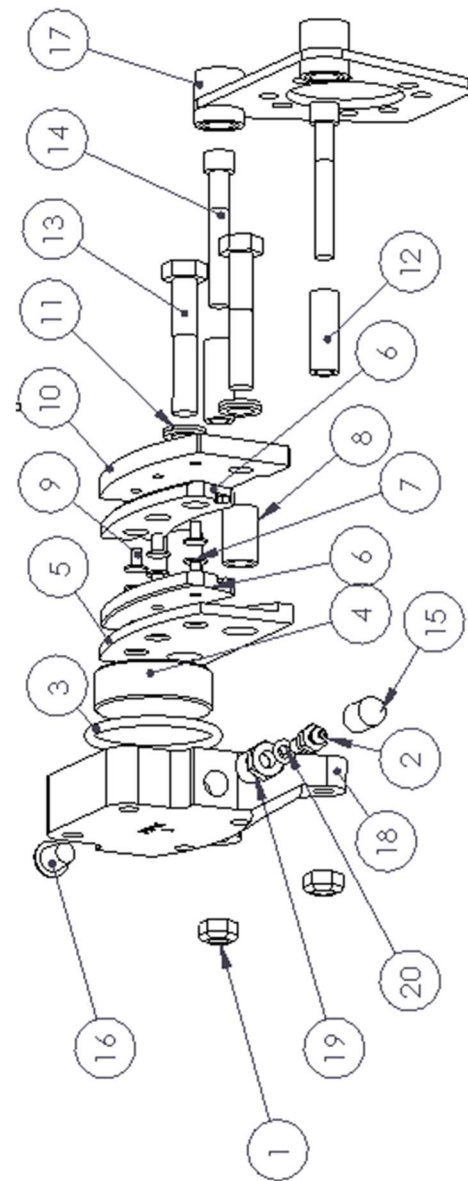

Fig. G-1
1. The brake mounting plate (Fig. G-1, # 17) should be spaced from the bearing so that it aligns in the same plane and is parallel with the brake disc.
- Open the brake bleeder valve slightly (Fig. G-1 #2) to facilitate filling the system purging of air.